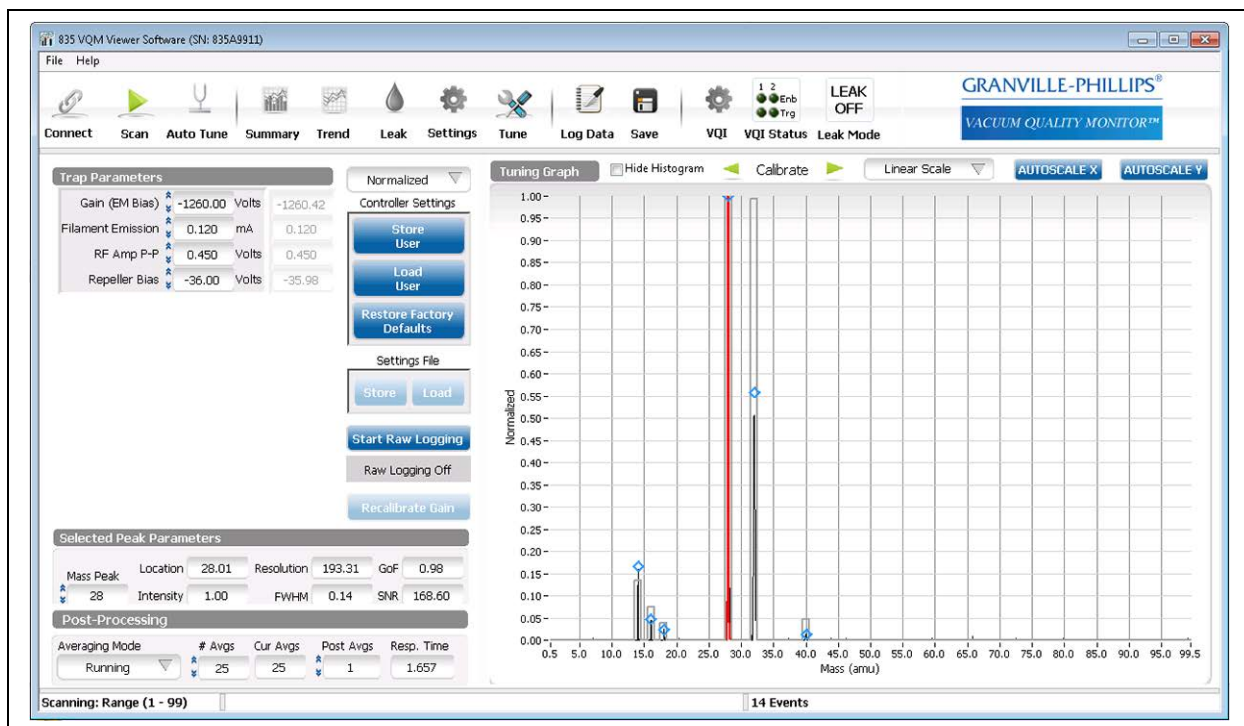

Figure 8-6 Tune Screen
- Access the Tune screen display of the VQM Viewer Software and select the Normalized view. See Figure 8-6.